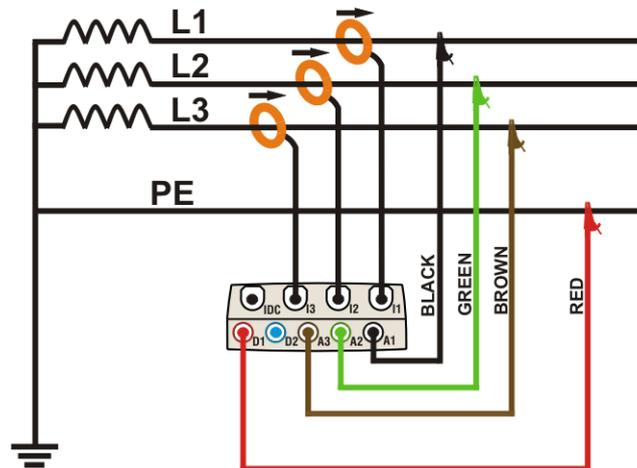

Fig. 257: Meter connection in a three phase 3-wire ARON system
2. Connect voltage test leads on Phases L1, L2, L3, and Ground cables considering the colours as shown in Fig. 257. **Verify the result "123" at display relative to a correct phase sequence indication** (see § 5.2.1) and perform the corrections if necessary.
3. Connect the transducer current clamps on Phase L1, L2, L3 cables as shown in Fig. 257 respecting the clamp's arrow direction indicating the current standard sequence from generator to load. **On Real Time Values' section screens (selecting a 3 wire system preliminarily) always verify the positive value of Active Power and the power factor relative to load which should be normally inductive** before starting a recording. Reverse the clamp by 180 degrees on cables in case of negative readings.